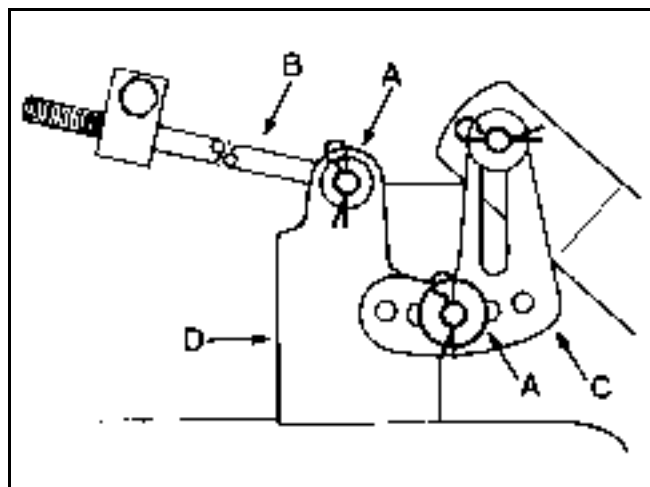

Figure 215
- Remove the hairpin cotter and washer from the end of the long rod (Figure 215). Slide the rod out of the mower mount. Repeat this step on the opposite side of the mower.
- Remove the hairpin cotter and washer at the mower leveling bracket (Figure 215). Slide the bracket off the mounting pin. Reinstall the washer and hairpin cotter for storage.